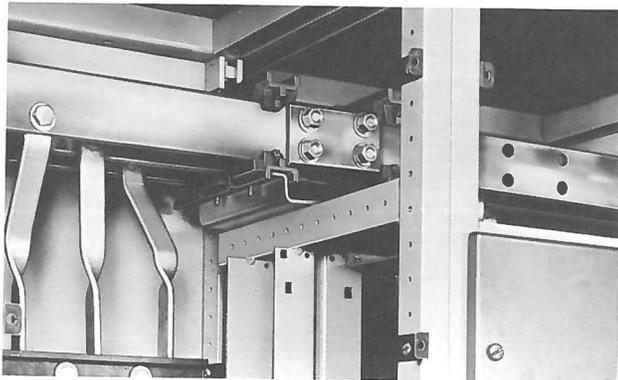

Fig. 3 Horizontal and Vertical Bus
Each control center contains a main horizontal bus (min. capacity 600 A.) which runs the entire length of the control center. Vertical busses with a minimum rating of 300 A. are connected to the horizontal bus to feed vertical compartments housing unit assemblies. Both the vertical and horizontal bus are held rigidly within the structure by bus supports which have high dielectric qualities (Figure 3).
4. Bolt top frames together using (2) 3/8 - 16 through bolts, nuts, and washers.
5. Using "U" type frame clamps provided, clamp adjacent front and adjacent rear upright members together near the bottom and near the vertical center of the frames. Each clamp should be secured with (4) .190 - 32 pan head thread cutting screws. (It may be necessary to remove one or two drawout units for easier installation of clamps. Refer to paragraph "Unit Removal".)
6. Bolt splicers to the bus ends with 3/8 - 16 - 1-1/8" long bolts with wide washers and nuts (Figure 3). These bolts should be torqued to 20 ft. lbs. to assure adequate electrical contact pressure.